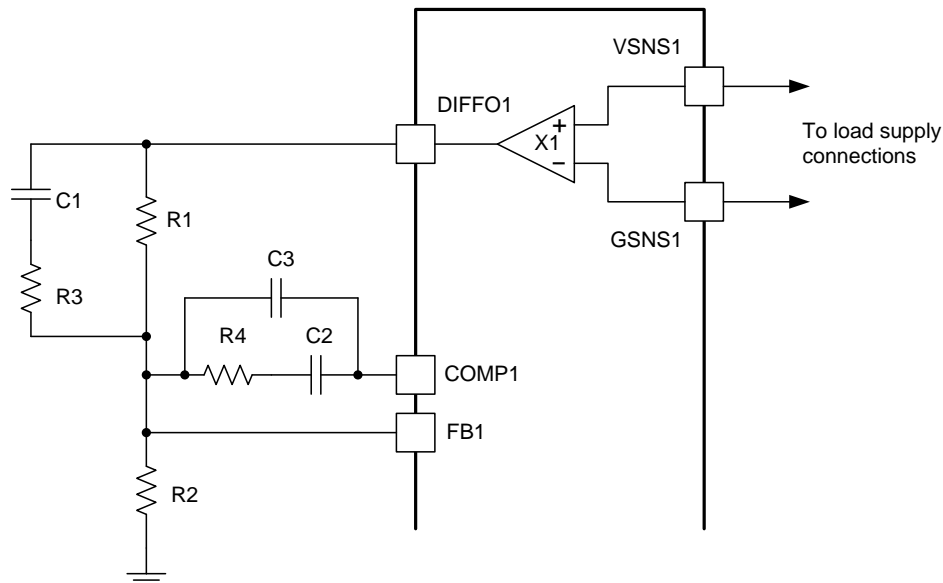

Figure 11. Setting the Output Voltage
Setting the output voltage is very similar to that of a traditional analog controller using a voltage divider from the output to the feedback (FB) pin. The output voltage must be divided to the nominal reference voltage of 600 mV. Figure 11 shows the typical connections for the controller. The voltage at the load is sensed using the unity gain differential voltage sense amplifier. This type of sensing provides better load regulation (see electrical specifications for the maximum output voltage of the differential sense amplifier).